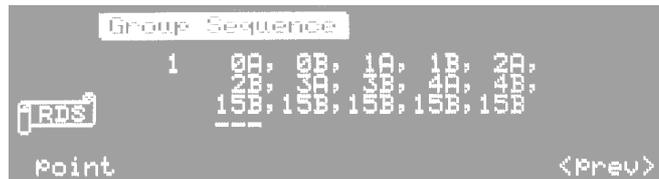

Fig. 3-7 Data Entry Example 2 of the Group Sequence Screen
3. Enter 15 data items as shown in Fig. 3-7.